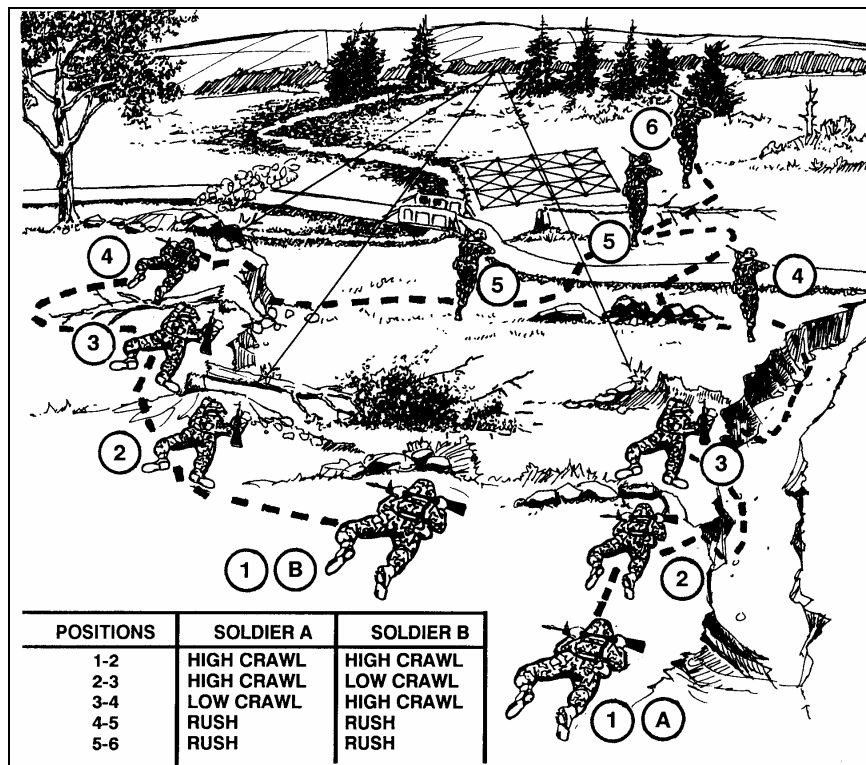

Figure F-2. Example individual or buddy team movement lane.
b. Buddy-team movement training builds on individual movement skills by having two-man teams negotiate the lane together. One soldier provides covering fire while his buddy moves to the next covered position. The team must maintain visual or audible communication with each other at all times during the movement. This exercise forms the foundation for trust and confidence between fire team and squad members. They should conduct this exercise before they execute battle-drill training. Figure F-2 shows an example individual or buddy team movement exercise lane, with the numbers representing the order of movement. The following text exemplifies an individual or buddy-team movement exercise: